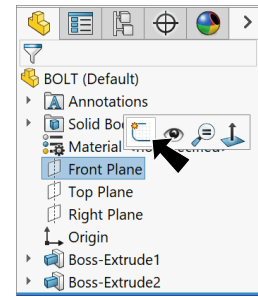

Fig. 9
Step 1. Click **Front Plane**  in the Feature Manager and click **Sketch**  on the context toolbar, **Fig. 9**.